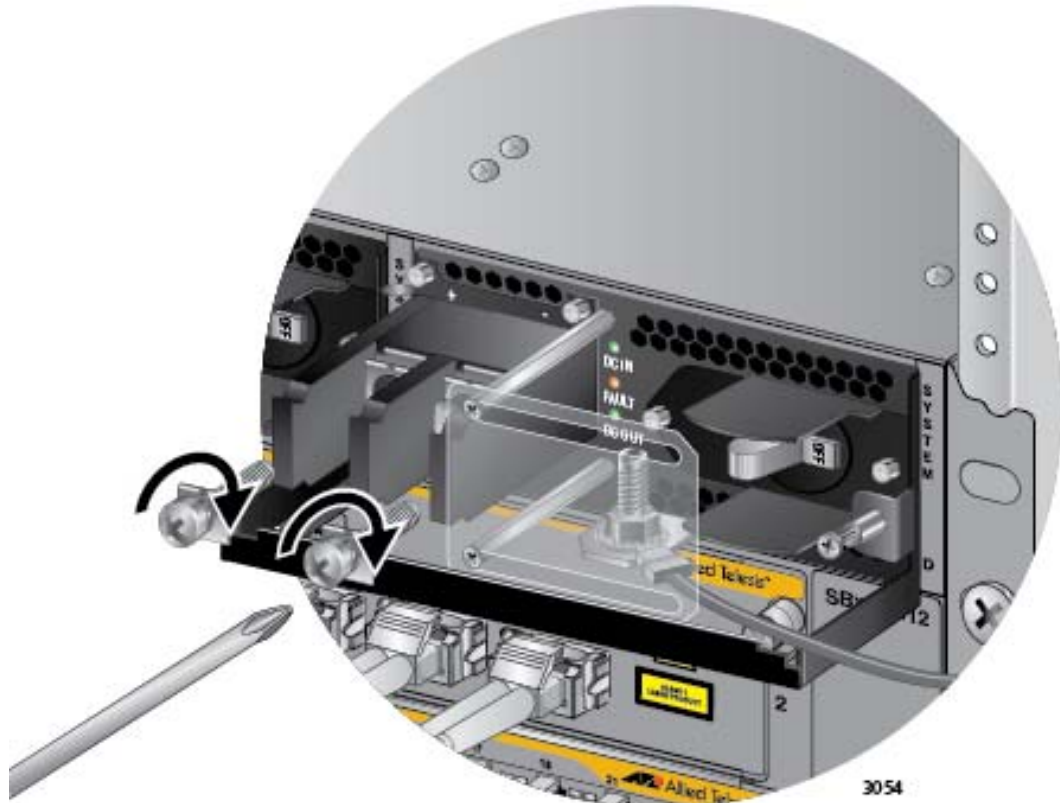

Figure 154. Reinstalling the Screws on the Positive and Negative Terminals
7. Reinstall the two screws on the negative (-) and positive (+) terminals. Refer to Figure 154 on page 242.